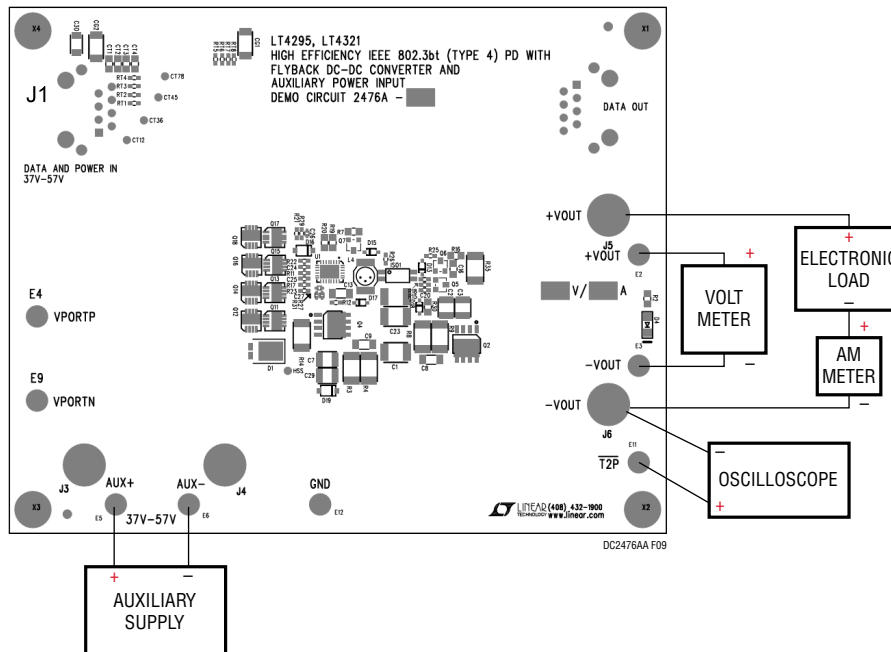

Figure 9. Setup Diagram for Auxiliary Supply Input
1. Place and connect test equipment (voltmeter, ammeter, oscilloscope and electronic load) as shown in Figure 9.
3. Connect the output of the auxiliary supply to the DC2476A as shown in Figure 9. Turn on the auxiliary supply and set its current limit to 2A. Then increase its output voltage to 48V.
6. Verify $\overline{T2P}$ response with an oscilloscope as shown in Figure 9. The $\overline{T2P}$ response during auxiliary power operation is: 75% Logic High/25% Logic Low, Toggle at $976Hz \pm 7\%$.